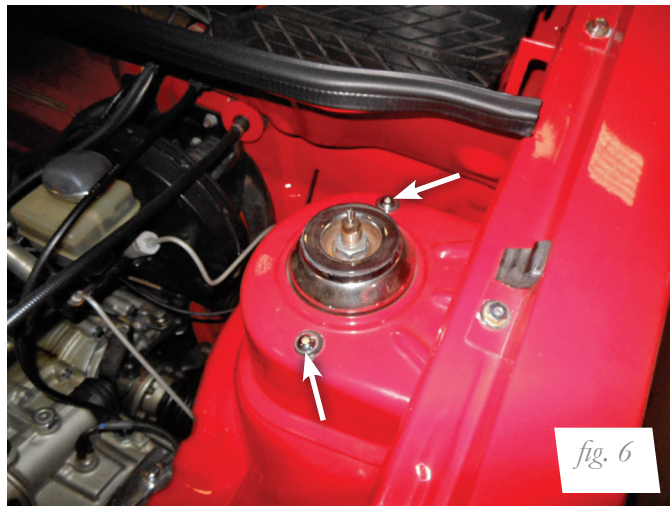

fig. 6
3. Within the engine compartment, remove the two upper mount nuts and extract the strut from the vehicle (fig. 6).